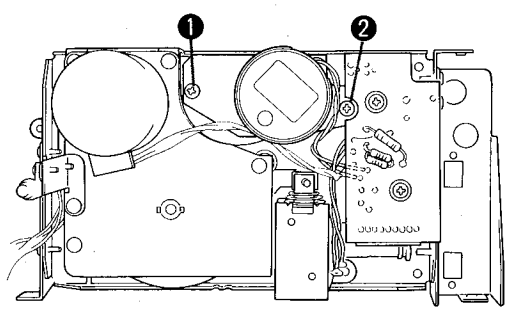

Fig. 14
1. Remove the screws 1 and 2 in Fig. 14 and then remove the reel motor bracket assembly from the cassette mechanism.
(Refer to Fig. 14 when wiring.)